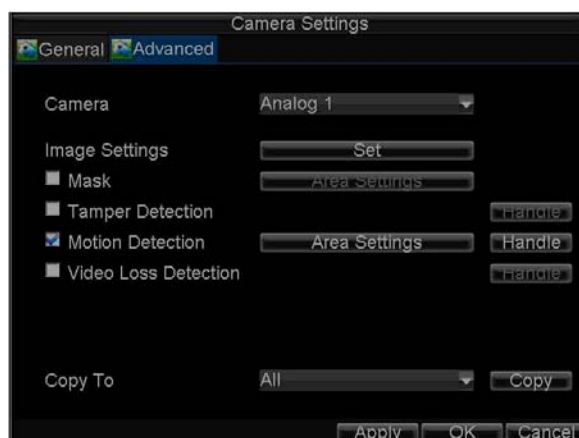

Figure 2. Advanced Camera Settings
2. Select the **Advanced** tab to enter the **Advanced Camera Settings** menu, shown in Figure 2.